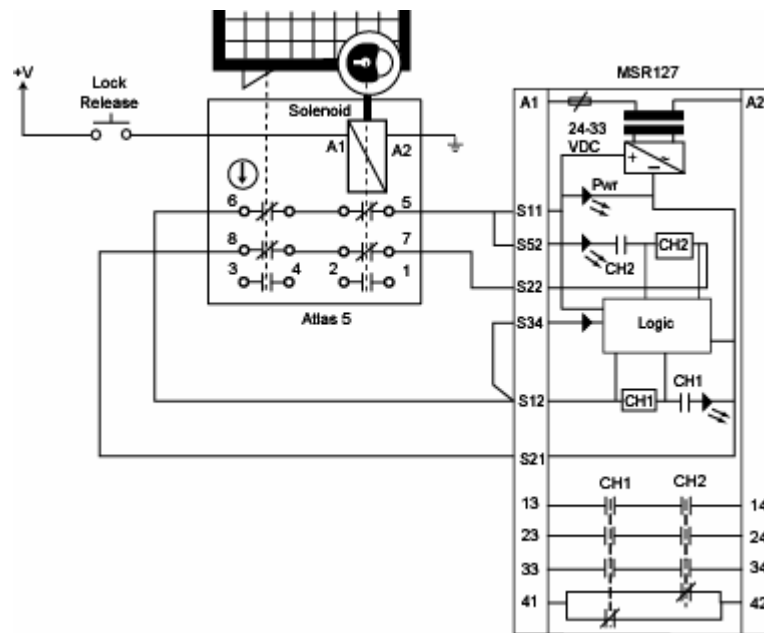

Figure 18 Single Atlas 5
- g. The input circuit arrangement shown in Figures 18 meets the requirements of EN954-1 Category 4.